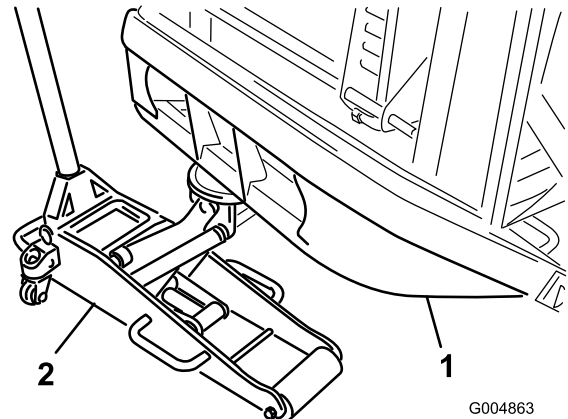

Figure 7
2. Place a jack stand under each wheel motor and a floor jack under the rear bumper (Figure 7), or suspend from a over-head hoist.